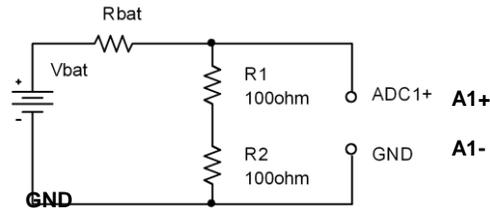

Figure B-5. Use the results from this experiment to determine the value of R_{bat} .
- **Now add a load to the battery, as in Figure B-5.** The load is two 100 Ω resistors in series. We will discuss why two resistors are used a little later. Set up the circuit so that you can add and remove the load quickly, leaving it disconnected unless you are making a measurement. This just means you should wire it so that it is easy to pull out and reinstall one end of one resistor. **You should only connect the load to the battery for a short moment (a second or two)** long enough to make the measurement. If you leave the resistors connected, your battery will drain down quickly and will definitely not last a full